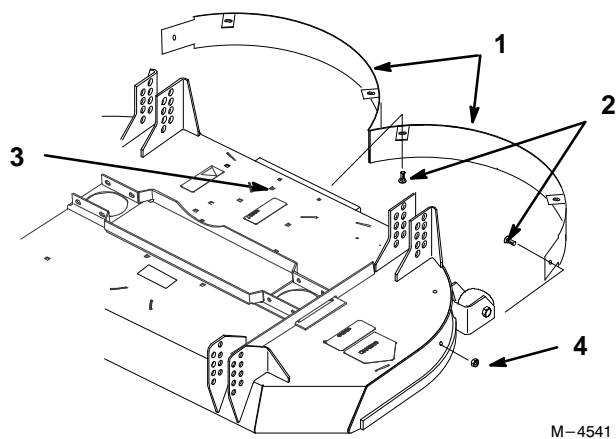

Figure 5
3. Locate the left and right Recycler[®] baffles inside mower and secure with (6) 1/4–20 x 3/4” (19 mm) cap screws, through from the bottom of mower, washers, (4) 1/4”–20 retained nuts and 1/4–20 locknuts (Fig. 5).
2. Remove capscrews ,locknuts, carriage bolts and Recycler[®] baffles from the mower (Fig. 5).